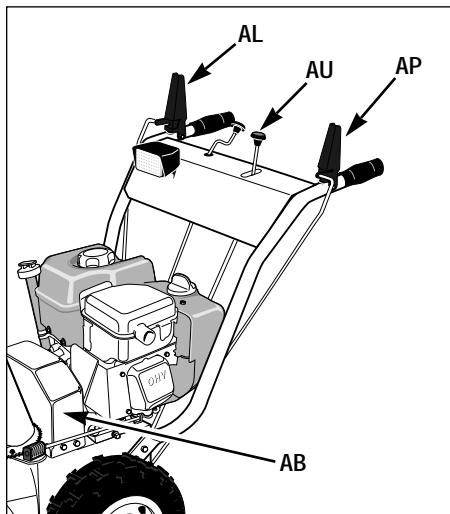
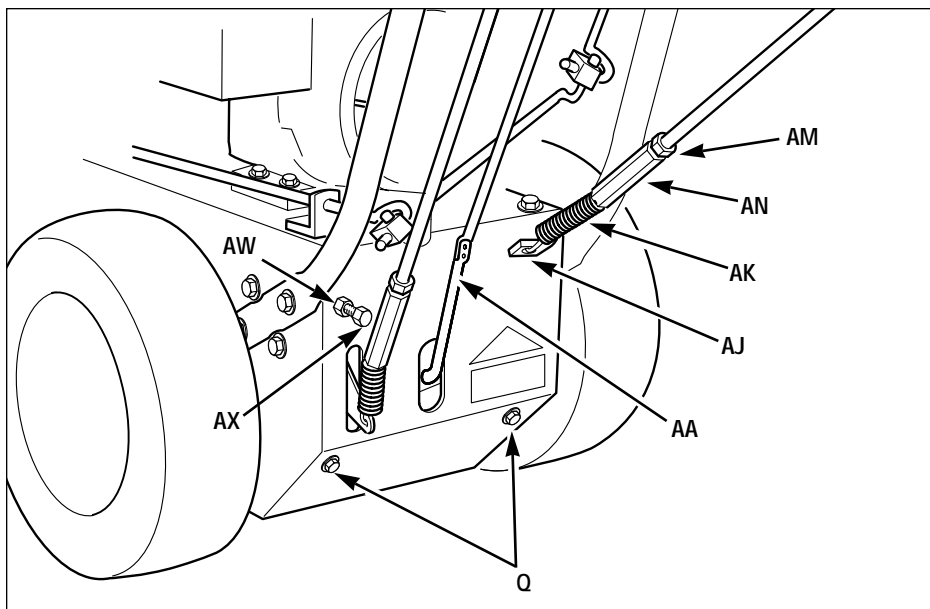
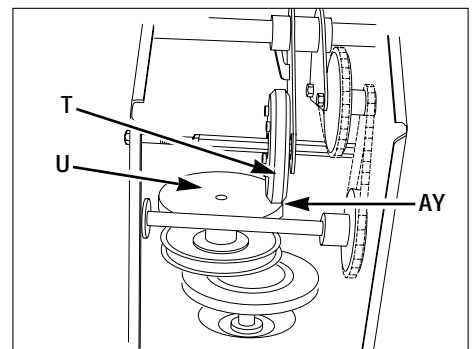
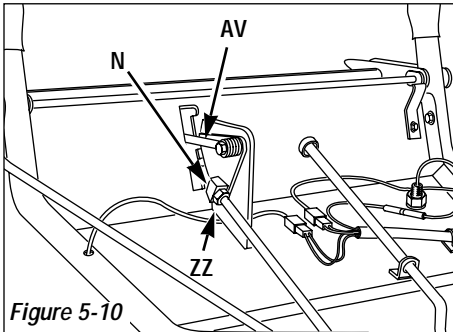

Figure 5-7
Figure 5-8
Figure 5-9
Figure 5-10
5. Remove the auger drive belt(s) from the lower drive pulley (AO, Figure 5-9) and remove belt(s) from unit. NOTE: If you are not replacing the wheel drive belt (AG), then proceed to *Installation*.
2. If assembling a new unit, raise the wheel drive control lever (AP, Figure 5-7) and the auger drive control lever (AL).
3. Pull the auger drive control arm (AJ, Figure 5-8) down completely.
4. Measure and note distance between coiled ends of spring (AK, Figure 5-8).
5. Squeeze auger drive control lever (AL, Figure 5-7) against handlebar. Measure between the coiled ends of the stretched spring (AK, Figure 5-8), making sure you measure between the same coils used in step 4.
The spring length should now measure 9/16" – 11/16" (14–17mm) longer than the measurement taken in Step 4. If it does not, loosen the jam nut (AM, Figure 5-8) and turn the adjuster (AN) to increase or decrease the length of the spring. Hold the adjuster and tighten the jam nut (AM) when the correct spring length is obtained. Re-check the measurements and adjust if needed.
1. With the engine stopped and the spark plug wire disconnected, move the gear shift lever (AU, Figure 5-7) to position No. 5. Remove the hairpin cotter and the flat washer from the pivot block (N, Figure 5-10). Disconnect the pivot block (N) from the gear shift lever plate (AV, Figure 5-10).
2. Pull the gear shift control rod (AA, Figure 5-8) down completely.
3. While holding the gear shift control rod (AA, Figure 5-8) down, loosen the jam nut (ZZ, Figure 5-10) and thread the pivot block (N) up or down as needed so it fits into the hole in the gear shift lever plate (AV, Figure 5-10).
4. Reinstall the pivot block (N, Figure 5-10) into the gear shift control lever hole and secure with the washer and hairpin cotter. Secure the jam nut (ZZ, Figure 5-10) against the pivot block (N).
5. Move the gear shift control lever (AU, Figure 5-7) through the full range of travel. Check for binding. Refer to the *Drive Disc Clearance Adjustment* instructions, if needed.
If the gear shift rod lever does not move freely through all the gear positions, adjust clearance (AY, Figure 5-9) as follows:
1. With the engine stopped and the spark plug wire disconnected, loosen jam nut (AW, Figure 5-8). Rotate adjusting screw (AX) until rubber drive wheel (T, Figure 5-9) contacts metal drive disc (U, Figure 5-9).
2. Turn the rubber drive wheel (T, Figure 5-9) and the metal drive disc (U) to find the point of minimum clearance (AY). (This is where both the drive wheel [T] and metal disc [U] are touching.)
3. Adjust the discs at the point of minimum clearance. Loosen adjusting screw (AX, Figure 5-8) 1/2 turn. Secure the adjusting screw (AX) in place, while tightening the jam nut (AW).
4. Check the clearance (AY, Figure 5-9) by moving gear shift lever (AU, Figure 5-7) through all positions. Repeat Step 3 as necessary.
2. Squeeze the auger drive control lever (AL, Figure 5-7) against handlebar.